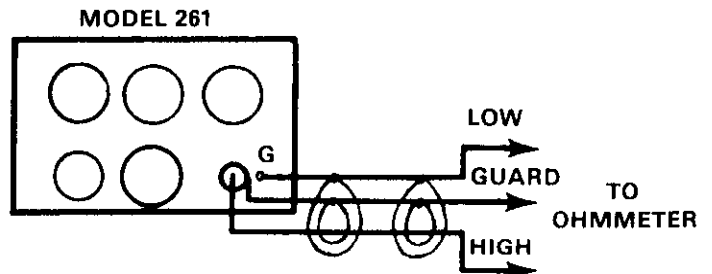

Figure 3-3. Guarded Circuit For Ohmmeter Calibration
4. Carefully shield connections when making measurements greater than $10^8\Omega$. Use guarded connections for measurements of $10^9\Omega$ and more, as shown in Figure 3-3. Guarded connections are necessary in such cases to minimize the shunting effects of cable and connector leakage resistance. For example, using the $10^{10}\Omega$ range, a $10^{12}\Omega$ leakage resistance will add an error of 1%. To make the proper connections within the unit, place the CAL-OPERATE switch in the CAL position (see Section 4).